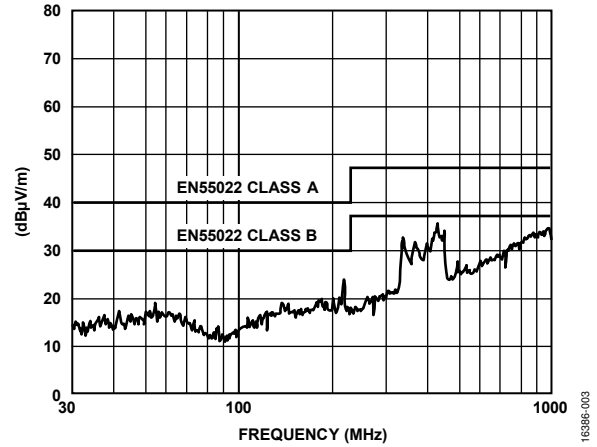
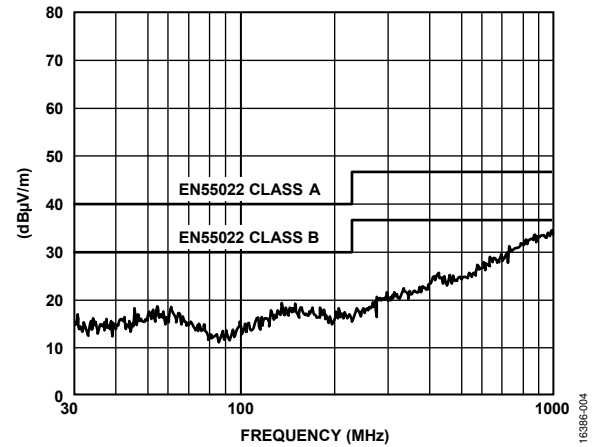

Figure 3. Horizontal Scan from 30 MHz to 1 GHz with 100 mA, 5 V Output
Figure 4. Vertical Scan from 30 MHz to 1 GHz with 100 mA, 5 V Output
The EVAL-ADUM5020EBZ evaluation board is configured and tested with 5.0 V power supplied to the  $V_{DDP}$  pin from the ADP7104ACPZ regulator output. The ADP7104ACPZ regulator input is supplied from a standard 9 V battery.  $V_{ISO}$  can be loaded with six 300  $\Omega$ , 0805 size, SMD resistors in parallel for a total load of 50  $\Omega$  or 100mA load at 5 V. Measurements carried out according to the CISPR22/EN55022 Class B standard in a semi anechoic chamber at 10 m from 30 MHz to 1 GHz are shown in Figure 3 and Figure 4. Figure 3 shows the results of the peak horizontal scan (the worst case), and Figure 4 shows the results of the peak vertical scan. Table 3 shows the tabulated quasi peak (QP) results. These results show that the ADuM5020 emissions at -4.0 dB margin are well below CISPR22/EN55022 Class B limits when at 5 V output and 100 mA load on a 2-layer PCB with the use of ferrites.